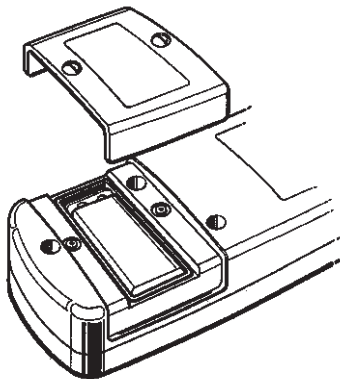

Fig.5
- (1)Set the Power /Range Selector Switch to OFF position.
- (2)Unscrew and remove the battery compartment cover as shown in Fig. 5.
- (3)Replace the battery with a new 9 V battery type 6F22 or equivalent, observing correct polarity.
- (4)Screw the battery compartment cover.